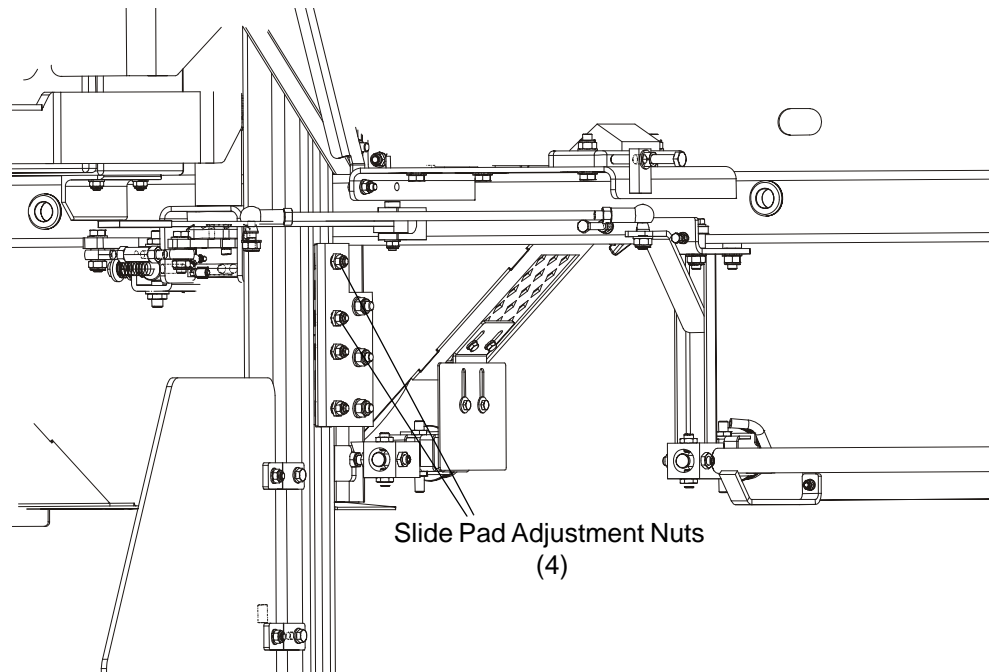

FIG. 3-3
**See Figure 3-3.** Make sure the entire face of each slide pad makes contact with the mast. Use the